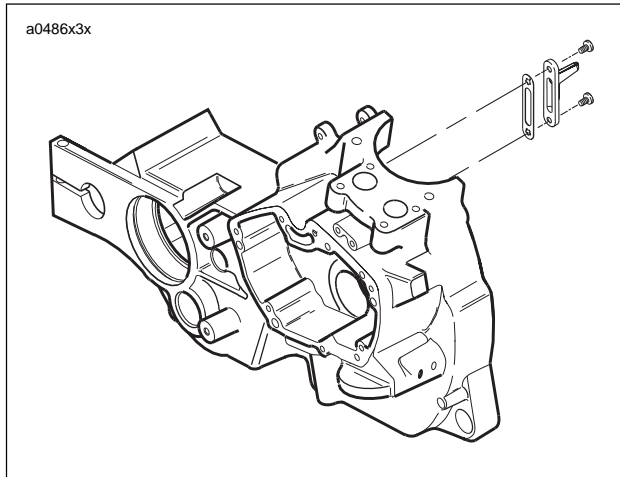

Figure 3-133. Piston Oil Jet Assembly
1. See Figure 3-133. Remove two TORX screws from piston jet assembly to remove piston jet from right crankcase.